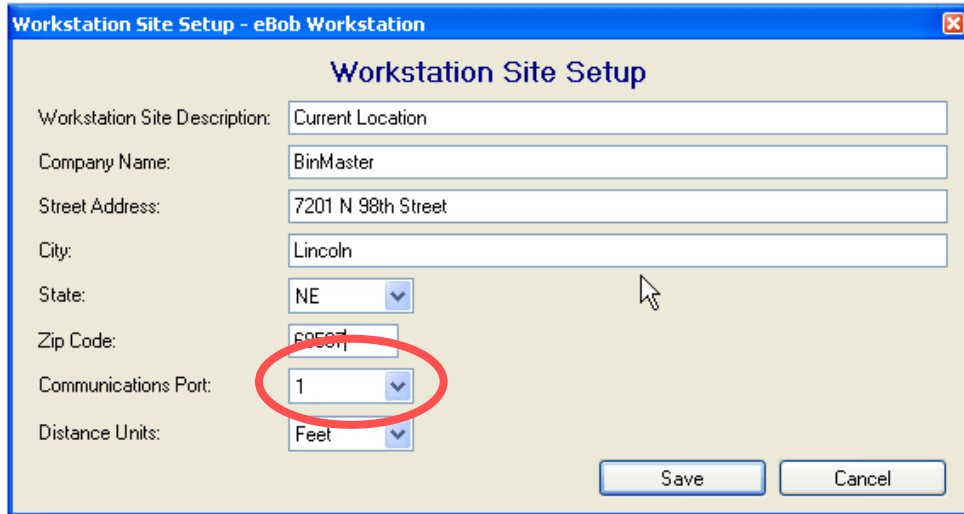

Figure 5
5. Select the serial communication port the PC is using to communicate with the Smart Bob sensors (Figure 5). The Communications Port setting is located in the Specification | Workstation Site Setup menu.